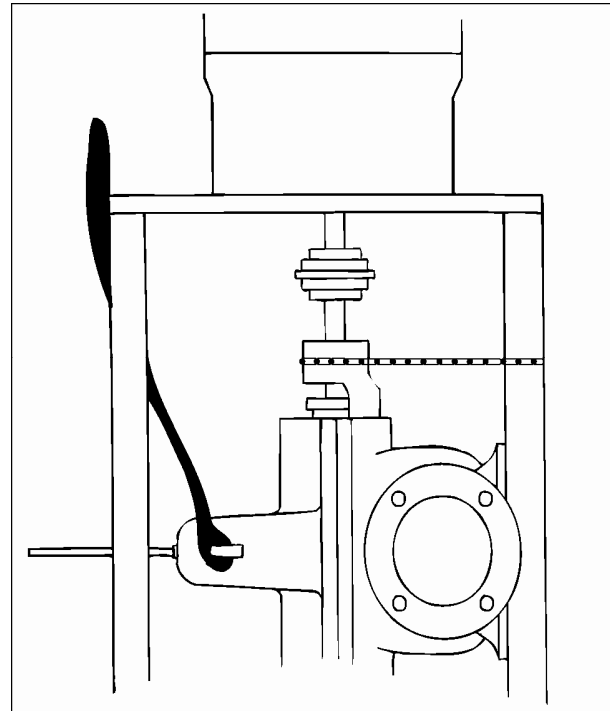

FIGURE 55 – NYLON SLING AROUND UPPER CASING HALF
- Sling around casing upper half ears using nylon sling, pulling slings taught so it is not possible for slings to slip off (See Figure 55).